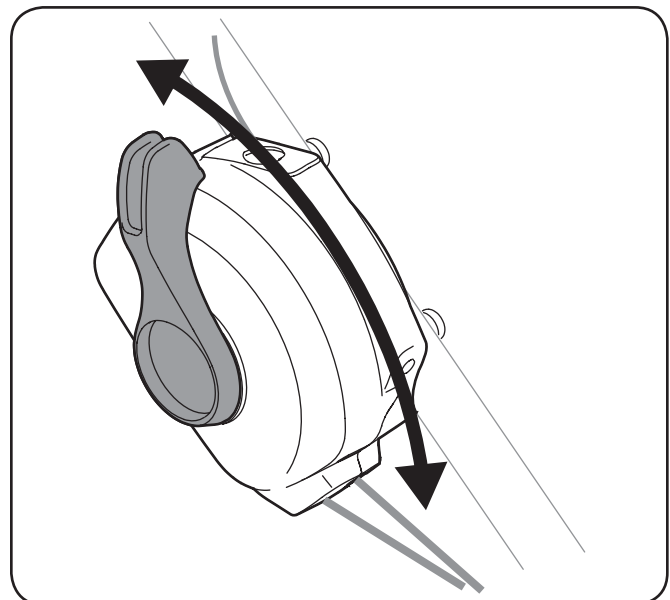

Figure 5-2
2. To change speed, move speed control to the desired speed. See Figure 5-2.